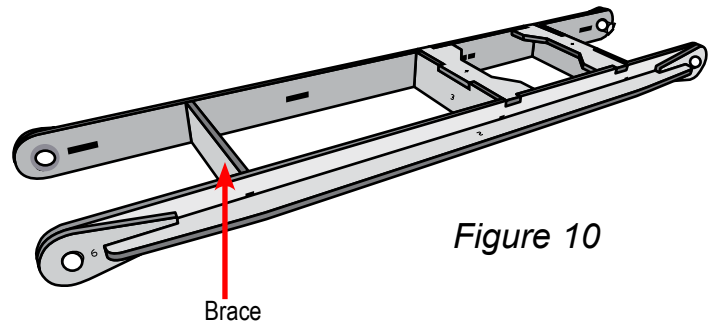

Figure 10
- Repeat Step 4 to attach the three remaining magnet supports as seen in Figure 10.
9. Locate the brace (Part 5). Apply glue to each end and slip it into the remaining slots in the side rail (Figure 10).